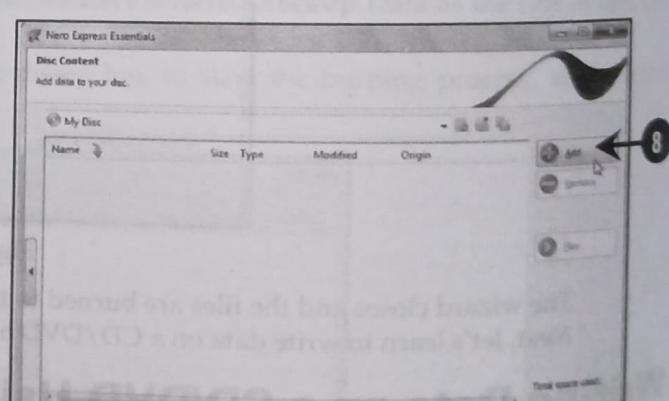

Fig.HD-8.17
The Disc Content page of the **Nero Express Essentials** wizard appears (Fig.HD-8.17).
8. Click the **Add** button in the Disc Content page of the **Nero Express Essentials** wizard, as shown in Fig.HD-8.17: